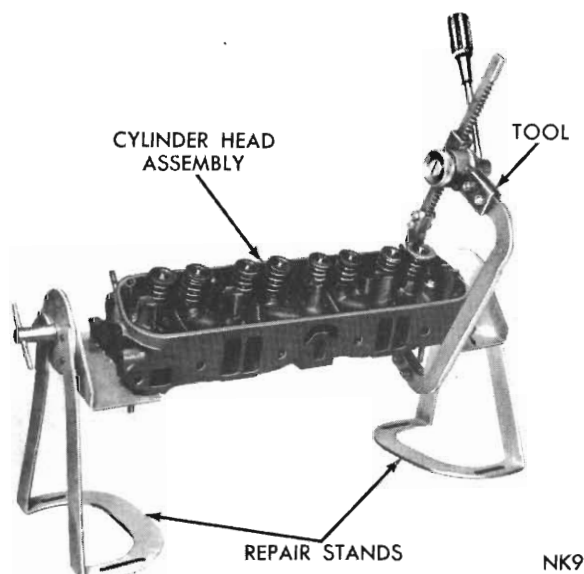

Fig. 4 - Compressing valve spring (typical)
(1) With cylinder head removed, compress valve springs using Tool E0092 as shown in *Fig. 4*.
(2) Remove valve retaining locks, valve spring retainers, valve stem cup seals and valve springs. Remove any burrs from the valve stem lock grooves to prevent damage to the valve guide when valves are removed. Identify valves for original installation positions.